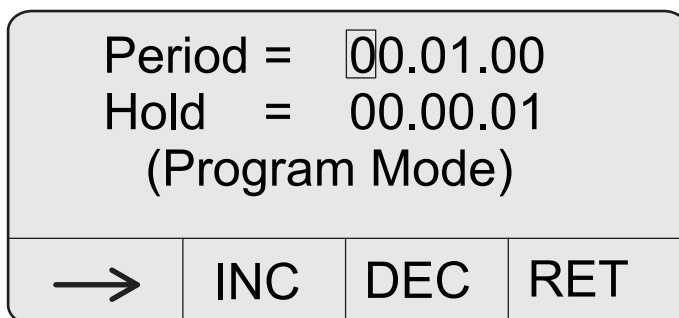

Figure 14 Period and hold screen
2. Press 2 (**NXT**) to display the Period and Hold screen (refer to Figure 14).